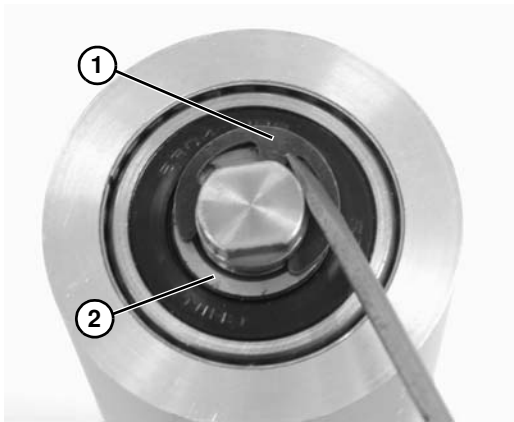

Figure 164
6. Remove the pulley shaft assembly: remove the clip ring (**Figure 164, item 1**) and washer (**Figure 164, item 2**) from one side of the pulley assembly.